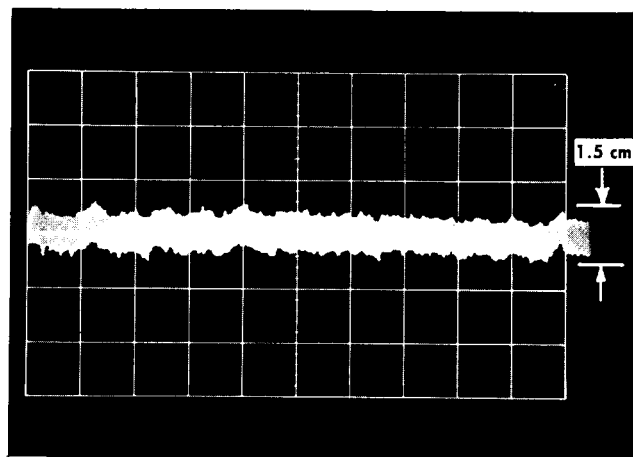

Fig. 6-15. Maximum random trace shift at 5 sec/cm, stored.
e. Check stored display for  $\leq 1.5$  centimeters peak to peak. See Fig. 6-15.